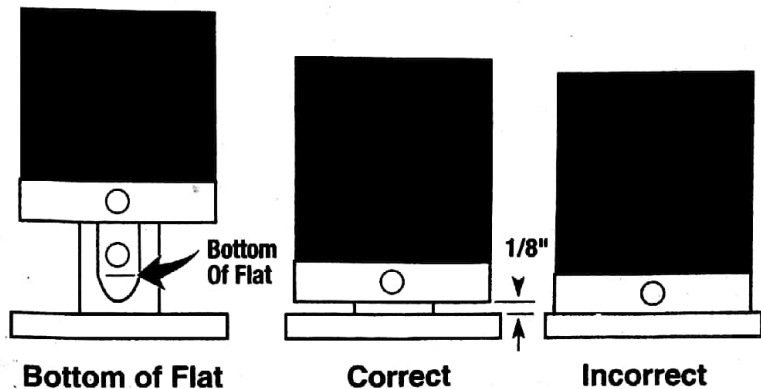

FIG. 11 (Coupler styles may vary from illustration.)
4. Remove set screws on coupler. **Coat set screw threads with thread sealant.** Re-install coupling to pump cartridge with set screw facing flat side of shaft. Tighten screw so coupler slides on shaft but stops at bottom of flat. Tighten until screw head is flush with coupler. Coupler should be approximately 1/8" off trap surface (**FIG. 11**).